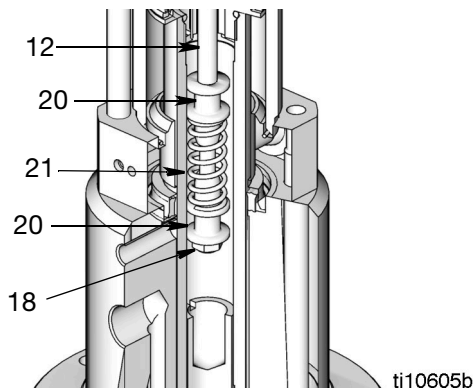

FIG. 22
- Visually inspect the spring (21). If there is wear or damage, remove nut (18), spring (21) and retainers (20) from the trip rod (12) (FIG. 22).